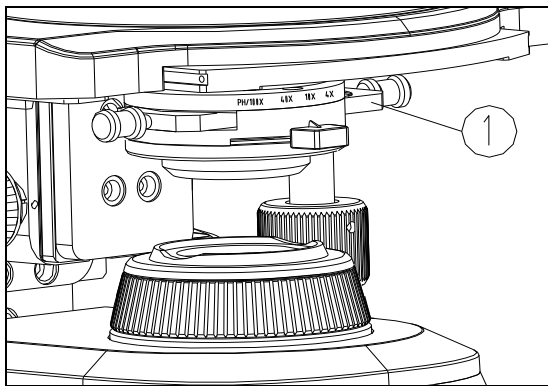

Fig. 29
When observing a fluorescence slide, pull or push the fluorescence shutter ① to the left until it connects with the detent indicating you have reached the fluorescence observation position (see Fig. 29). The transmitted illumination path is now totally blocked. Turn off the transmitted light adjustment knob.